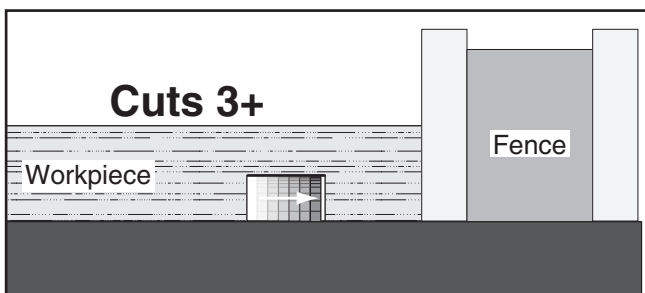

Figure 64. Additional single-blade dado cuts.
- Make additional cuts (see **Figure 64**) in center of dado to clear out necessary material. Dado is complete when channel is completely cleared out.